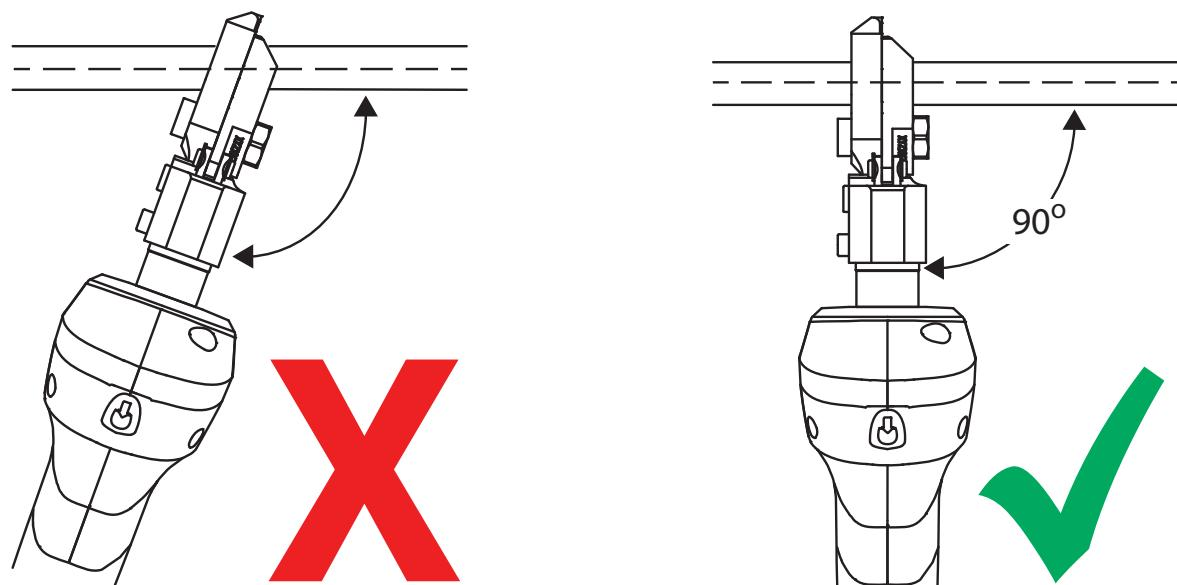

Figure 6
6. Hold tool steady and position the jaws around the cable at a 90° (Fig.6). Do not cut diagonally or twist work piece/tool during operation, this can result in the jaw breaking or chipping. Large forces generated during cutting can throw broken pieces and cause injury.